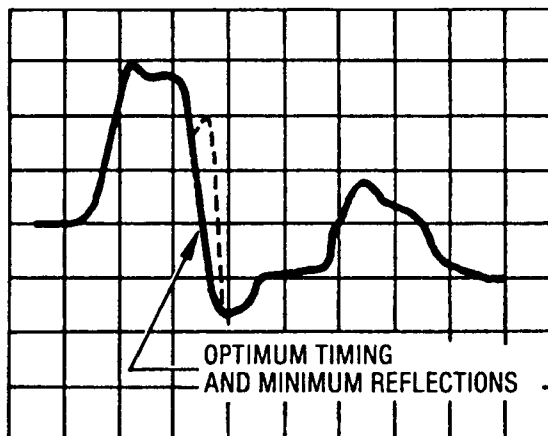

Figure 5-35. Series Pulse Width Waveform
10. Adjust "SPW" A1A4R25 to obtain the waveform shown in figure 5-35.